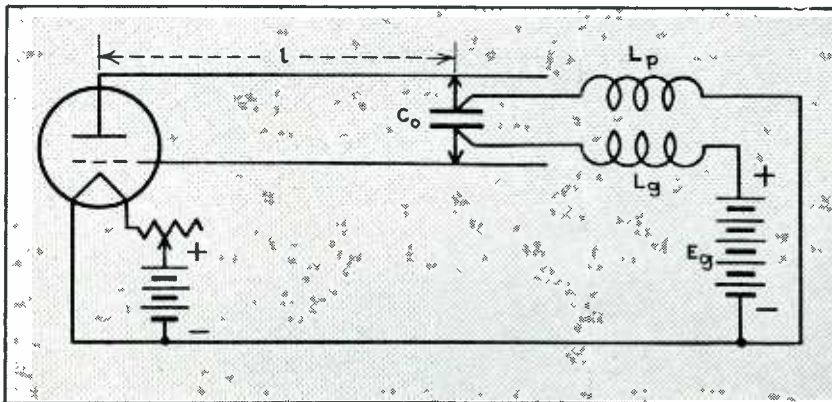
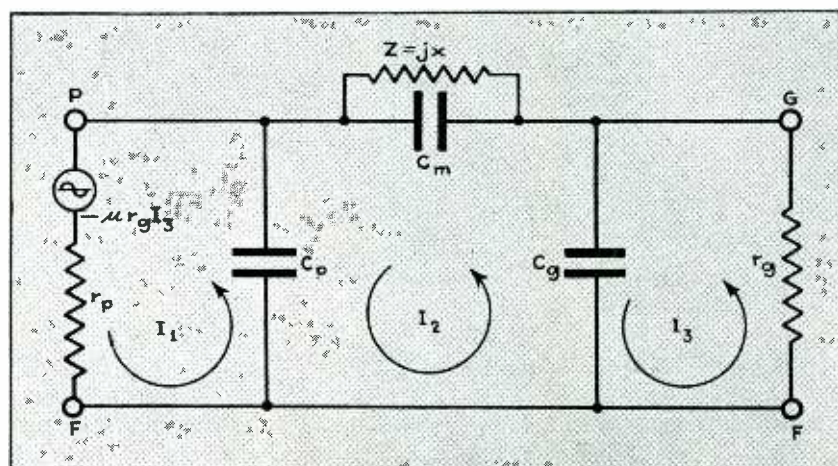

Fig. 1 (above) The circuit diagram of a typical electron oscillator
Fig. 2 (below) The equivalent circuit of the electron oscillator in Fig. 1
The circuit of a typical electron oscillator is given in Fig. 1. When this has been stripped of strictly d-c branches and when elements inherent in the tube have been added, the equivalent circuit may be represented as in Fig. 2. Here C_g , C_m , and C_p are the usual tube capacities; and they are assumed to be lumped at the end of the transmission line, the impedance of which is represented by Z in shunt with C_m . The grid-cathode and plate-cathode resistances are represented by r_g and r_p , respectively. All other resistances will be neglected. For convenience the impedance of Z and C_m in parallel will be denoted by Z_s . Impedance symbols will be retained for brevity until reactances are needed.
It will be noticed that the equivalent circuit is that of a simple Colpitts, or more particularly, the Ultraudion form of the Colpitts. Hence any conclusions drawn from the analysis of Fig. 2 will apply equally well to any simple Colpitts. It is understood that Z need not necessarily be the impedance of a transmission line.
This ω_o is of prime importance in an electron oscillator. By definition it is the geometric mean of the time constants of the end meshes of Fig. 2. By equations (4) and (5) it is the lowest frequency at which the circuit can oscillate, which holds for any Colpitts. It is the frequency, in radians, of the pure B-K oscillator and the frequency at which the Gill and Morrell circuit oscillates most intensely. It is also the frequency at which the Hollmann oscillator jumped from the B-K type to the G-M type. The condition $\omega \geq \omega_o$, obtained from (4) and (5), is the internal constraint that is necessary to force the circuit to oscillate at the higher modes.